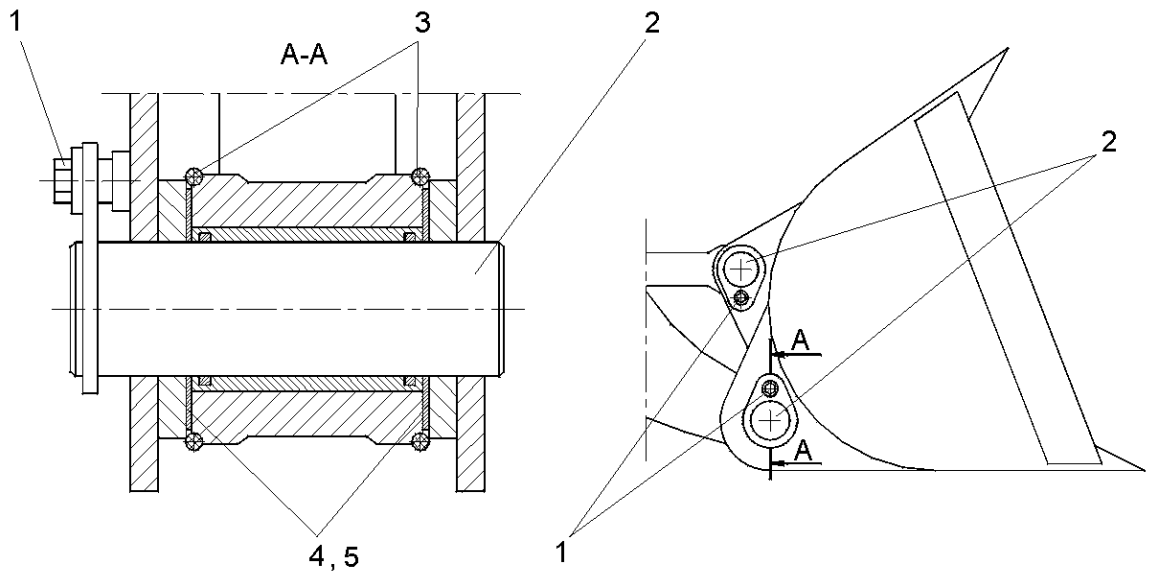

Fig. 5.49. Bucket Installation
2. Place the bucket in position as shown in Fig. 5.49.
3. Remove bolts (1) and tap pins (2) out.